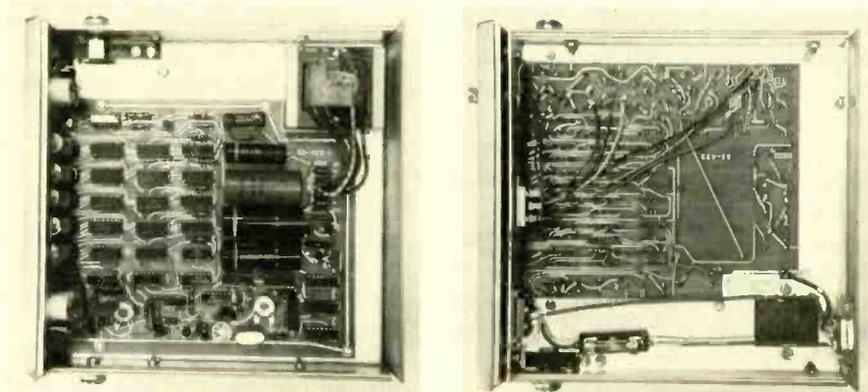

Fig. 1—Top and bottom view of Heath's IB-101 Frequency Counter circuitry.
■ This and the previous articles in this series include scope traces of virtually every circuit function in Heath's IB-101 Frequency Counter (Fig. 1) that can be photographed in a practical manner. These photographs have included everything from the wave shape of the 1MHz oscillator signal to partial photographs of a group of waveforms that were in effect "stretched" three-quarters of a mile to show the presence of resulting low-time-constant differentiated signals. This month's article continues our description of the circuitry used to regulate the decade counters while functioning at a frequency of but 1Hz.